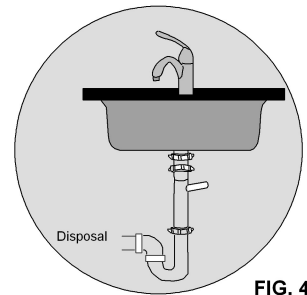

FIG. 4
5. Replace J-bend by sliding onto trap and tailpiece of ET113-001 simultaneously. Secure tightly by reusing original nuts and washer. (See Fig. 4)